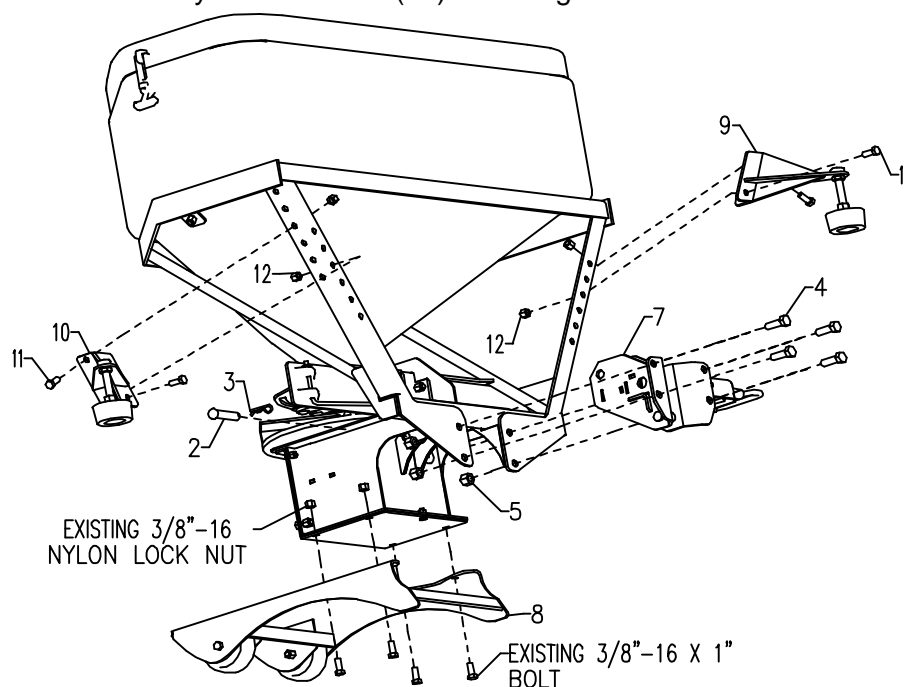

Figure 6. RT3 Hitch Assembly Installation
- 2) Mount RT3 Hitch Assembly (7) to Spreader using four 1/2"-13 X 1-1/2" HHCS (4), four 1/2"-13 Nylon Lock Nuts (5), one 5/8" X 2-1/2" Pin (2), and one #16 Cotter Hairpin (3). See Figure 6.
- 3) Mount Leg Assembly (8) to bottom of Spreader using four existing 3/8"-16 X 1" HHCS and four existing 3/8"-16 Nylon Lock Nuts. See Figure 6.
- 4) Mount Driver Side Bumper Bracket (9) to Spreader using two 3/8"-16 X 1" HHCS (11) and two 3/8"-16 Nylon Lock Nuts (12). See Figure 6.
- 5) Mount Passenger Side Bumper Bracket (10) to Spreader using two 3/8"-16 X 1" HHCS (11) and two 3/8"-16 Nylon Lock Nuts (12). See Figure 6.